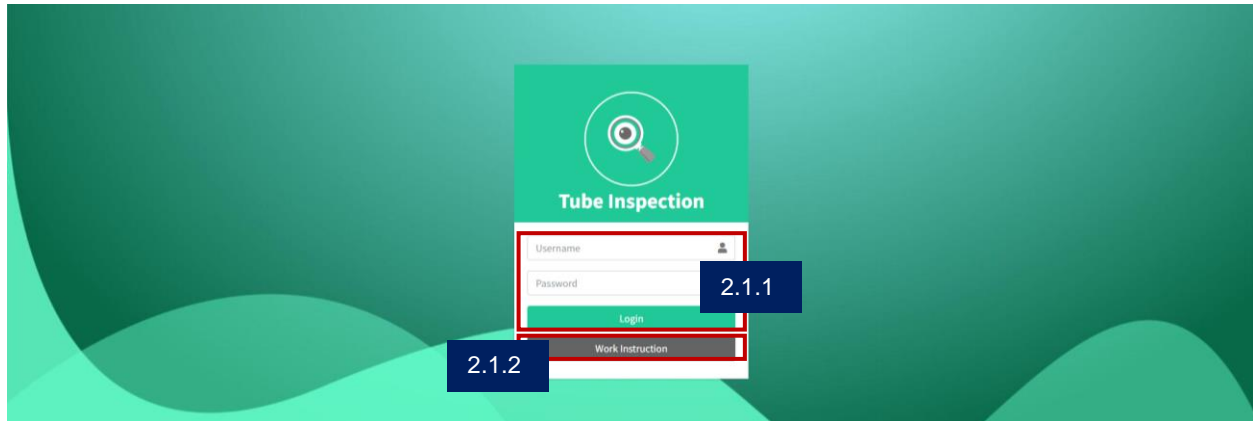

Figure 1. Login Page
2.1.1 Input the correct login credential, then click on the Login button. *See Figure 1*
2.1.2 Click the Work Instruction button to access the system work guide. *See Figure 1*
3.1.1 Input the correct login credential, then click on the Login button. *See Figure 1*
3.1.2 Click the Work Instruction button to access the system work guide. *See Figure 1*